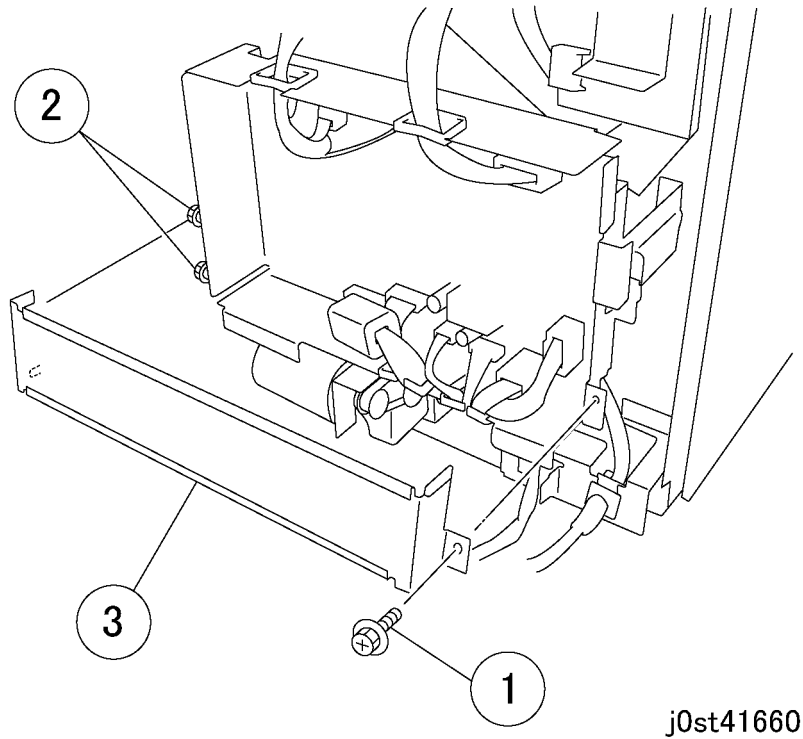

Figure 1 Removing the bracket (j0st41660)
2. Remove the bracket. (Figure 1)